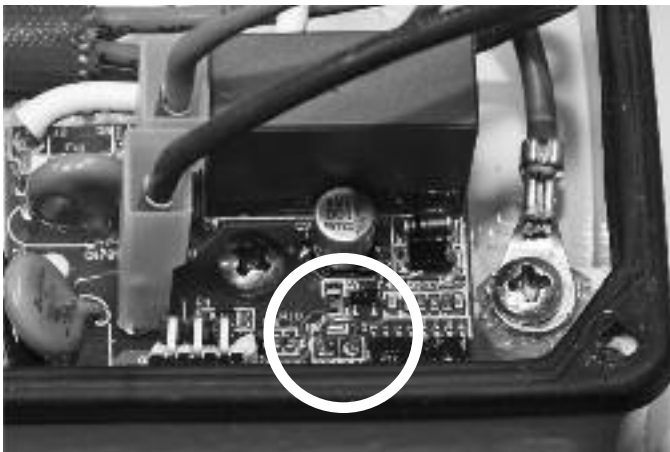

Figure 2: Timer Jumper Wire
3. Locate the timer jumper wire shown in fig. 2.